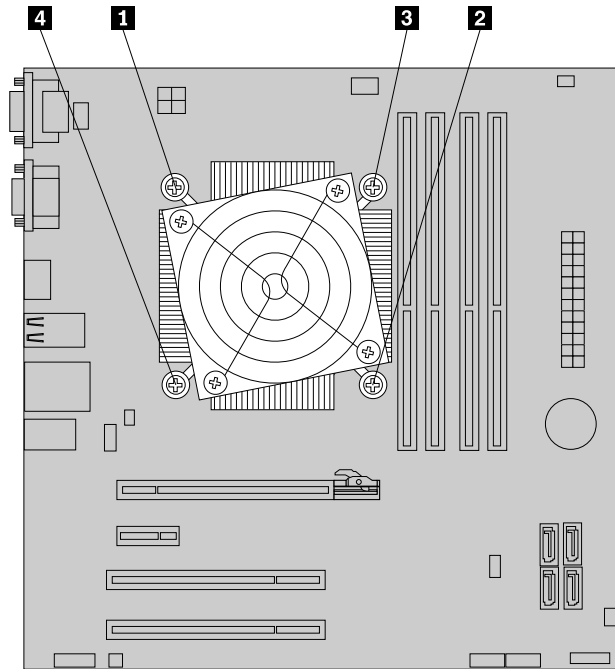

Figure 28. Removing the heat sink and fan assembly
9. Follow this sequence to install the four screws to secure the new heat sink and fan assembly. See Figure 28 “Removing the heat sink and fan assembly” on page 53.